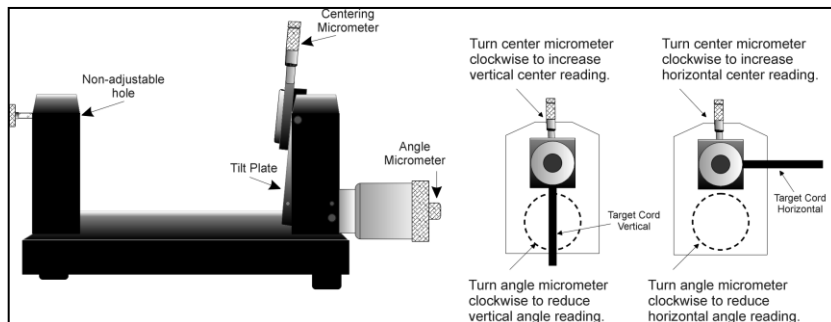
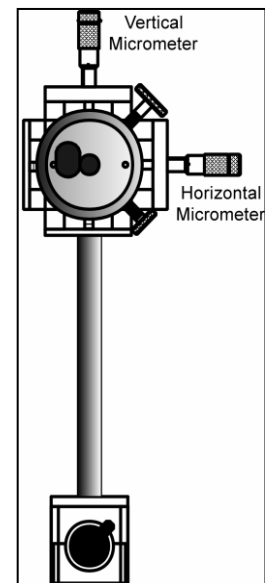

Figure 18 – Model A-807 Calibration Mounting Fixture
Figure 19 – T-230 Target Stand
Note: Figure 18 shows the target mounted in the Hamar Laser A-807 fixture stand. In order to take advantage of the automated calibration features available with the Read8 software, this fixture stand must be used for calibrating center and slope targets. Mount the laser in the non-adjustable hole on the fixture. Mount the target in the tilt plate with both the target and laser in the normal position (cord down).
An appropriate target stand with micrometer stage, such as the Hamar Laser T-230, or any calibrated x-y slide may be used when calibrating center-only targets (see Figure 19).
Note: The preferred procedure is to calibrate the vertical axes, both center and slope if appropriate, then rotate the target in the fixture 90 degrees and calibrate the horizontal axes (see Figure 18). If working with a fixture that has a horizontal micrometer, there is no need to rotate the target (see Figure 19).
Note: If using the Model A-807 Calibration Mounting Fixture, (see Figure 18) the target must be rotated 90° before performing a horizontal calibration. If the calibration fixture you are using has two centering micrometers, such as the T-230, the horizontal centering micrometer may be used and there is no need to rotate the target.
In order to use the automated features of the Read8 software, calibration for a center-and-slope target must be performed with the target mounted in the A-807 calibration mounting fixture (see Figure 18). This fixture is equipped with both a centering micrometer and an angle micrometer.
- Note: If using the Model A-807 Calibration Mounting Fixture, (see Figure 18) the target must be rotated 90° before performing a horizontal calibration. If the calibration fixture you are using has two centering micrometers, such as the T-230, the horizontal centering micrometer may be used and there is no need to rotate the target.*